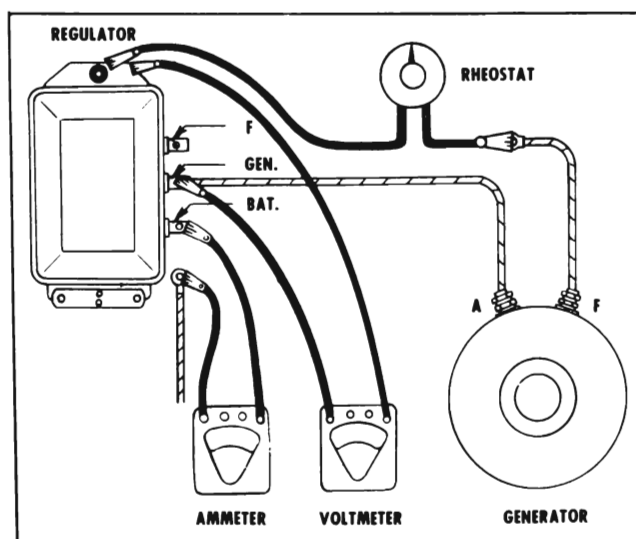

Figure 10-16—Testing Cutout Relay
2. Connect a variable resistance into field circuit at "F" terminal and turn control knob to position for most resistance (open circuit). See Figure 10-16.